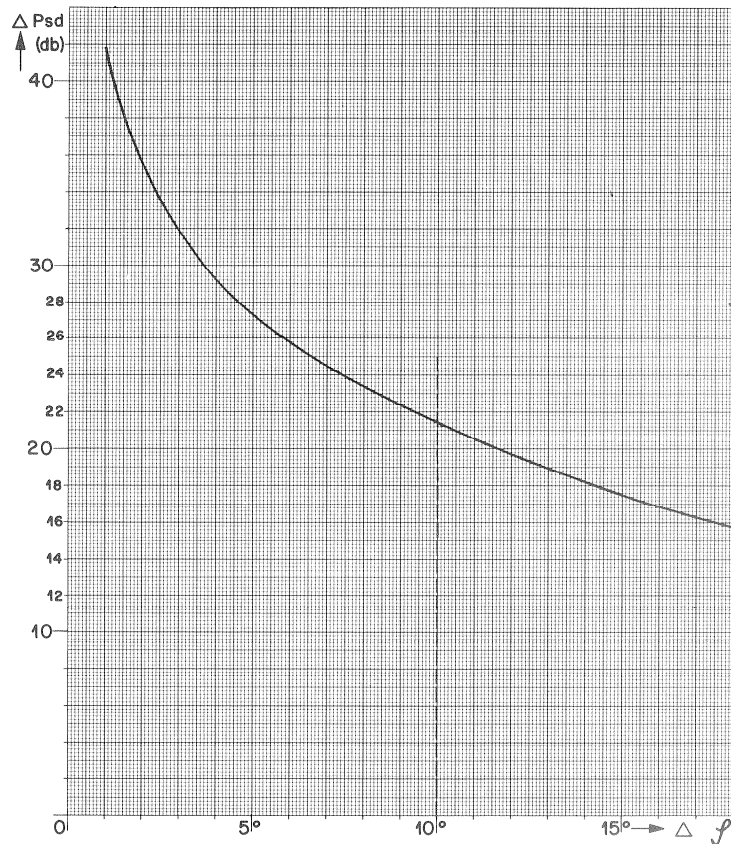

Fig 31
- In order to determine the phase angle in accordance with fig 31, it is necessary to know the ratio between the sum level and the difference level. This value is easily obtained by remembering the db reading on the VTVM when measuring P_s . Then one channel is reversed and the range switch on the VTVM is turned back until a reading is obtained. In this way the difference of the two levels can be read directly in db.